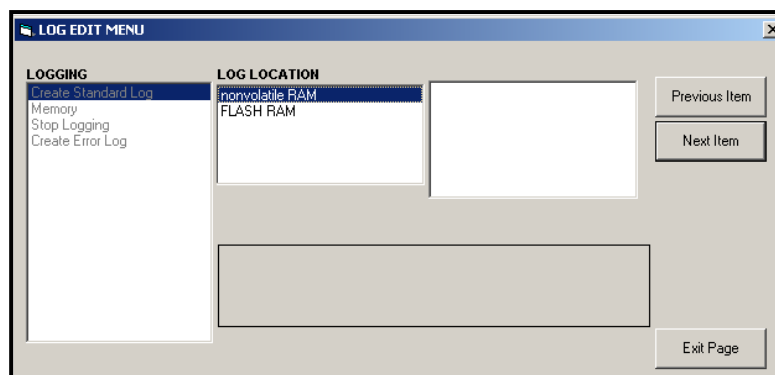

Figure 12: Log Location in the Create Standard Log Option
- a. Double-click on the *Create Standard Log* option. The window now appears similar to Figure 12.